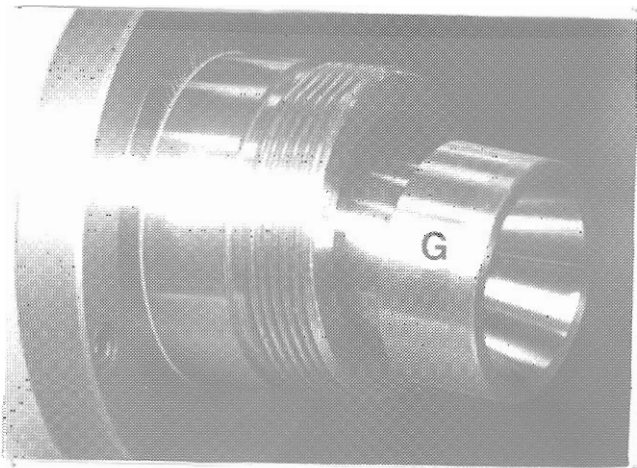

Figure 10.3 - Adapter Removal
3. Remove adapter "G", Figure 10.3.